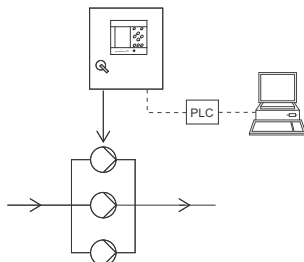

Fig. 15 Open loop (external controller)
- Open loop (external controller). See fig. 15.